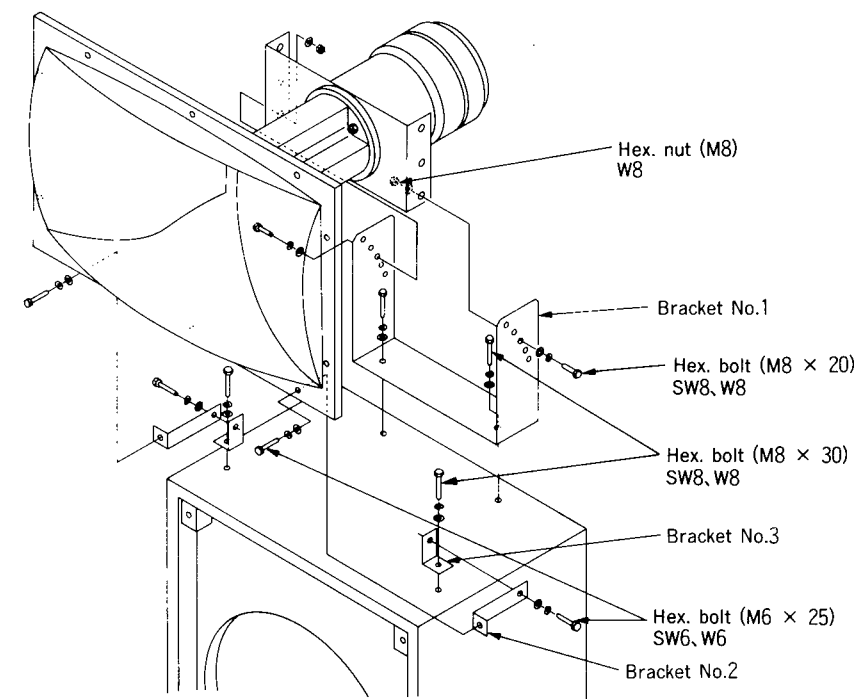

Figure 2
1. Referring to Figure 2, securely mount the horn using the parts supplied with the bracket set.